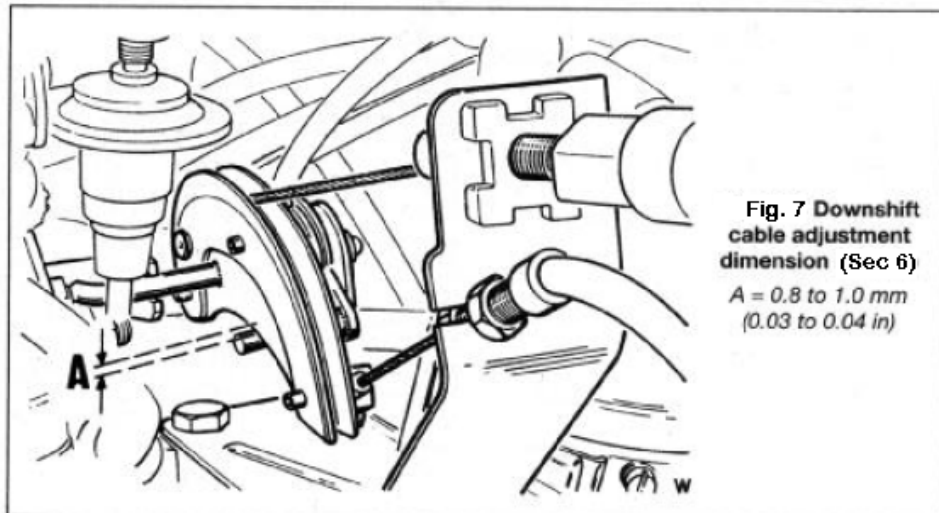

Fig. 7 Downshift cable adjustment dimension (Sec 6)
- 7 To adjust the cable, first check that the carburettor throttle fully opens when the accelerator pedal is depressed. While an assistant depresses the accelerator pedal, turn the lever on the transmission to the kickdown position and lock it in this position. Adjust the cable locknuts to give the dimension shown in Fig. 7, then tighten the locknuts.